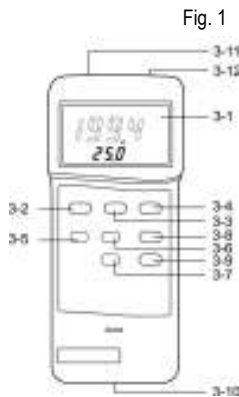

Fig. 1
1. Push the "power off button" (3-2, Fig. 1) to let the instrument power "ON".
2. Determine temperature unit to °C or °F by pushing the "°C/°F Button" (3-4, Fig. 1) Then the display will show the temperature unit of °C or °F.
Insert one temperature probe plug into the socket T1 (3-11), then push the "Function Button" (3-8, Fig. 1) until the display show the marker "T1" display will show the temperature reading that measured from the probe.
- a. Insert second temperature probe plug into the "T1 Socket" (3-11, Fig. 1).
- b. Insert second temperature probe plug into the "T2 Socket" (3-12, Fig. 1).
- c. The main display (upper display) will show the temperature reading of the first probe (T1) & the lower display will show the temperature reading of second probe (T2), push the "Function Button" (3-8, Fig. 1) until "T1" appears on the display.
- d. The main display (upper display) will show the temperature reading of second probe (T2) & the lower display will show the temperature reading of the first probe (T1), push the "Function Button" (3-8, Fig. 1) until "T2" appears on the display.
- e. The main display (upper display) will show the differential temperature reading of the first and second probe (T1-T2) and the lower display will show the temperature reading of the first probe (T1), push the "Function Button" (3-8, Fig. 1) until "T1-T2" appears on the display.
1. During the measurement. Push the "Data Hold Button" (3-3, Fig. 1) will hold the display values & LCD will show the "D.H" marker.
1. The DATA RECORD function displays the maximum, and minimum readings. To start the DATA RECORD function, press the "Record Button" (3-6, Fig. 1) once. "REC" will appear on the LCD display.
3. Push the "CALL Button" (3-7, Fig. 1) once, then the "Max" marker along with the maximum values will appear on the LCD display.
When the left corner of LCD display show "LBT", it indicates a normal battery output of less than 6.5V – 7.5V. It is necessary to replace the battery. However, in—spec measurement may still be made for several hours after low battery indicator appears before the instrument becomes inaccurate. Slide the Battery Cover (3-10, Fig. 1) away from the instrument and remove the battery. Replace with 9V battery (heavy duty type) and replace the cover. Make sure the battery cover is secured after changing the battery.